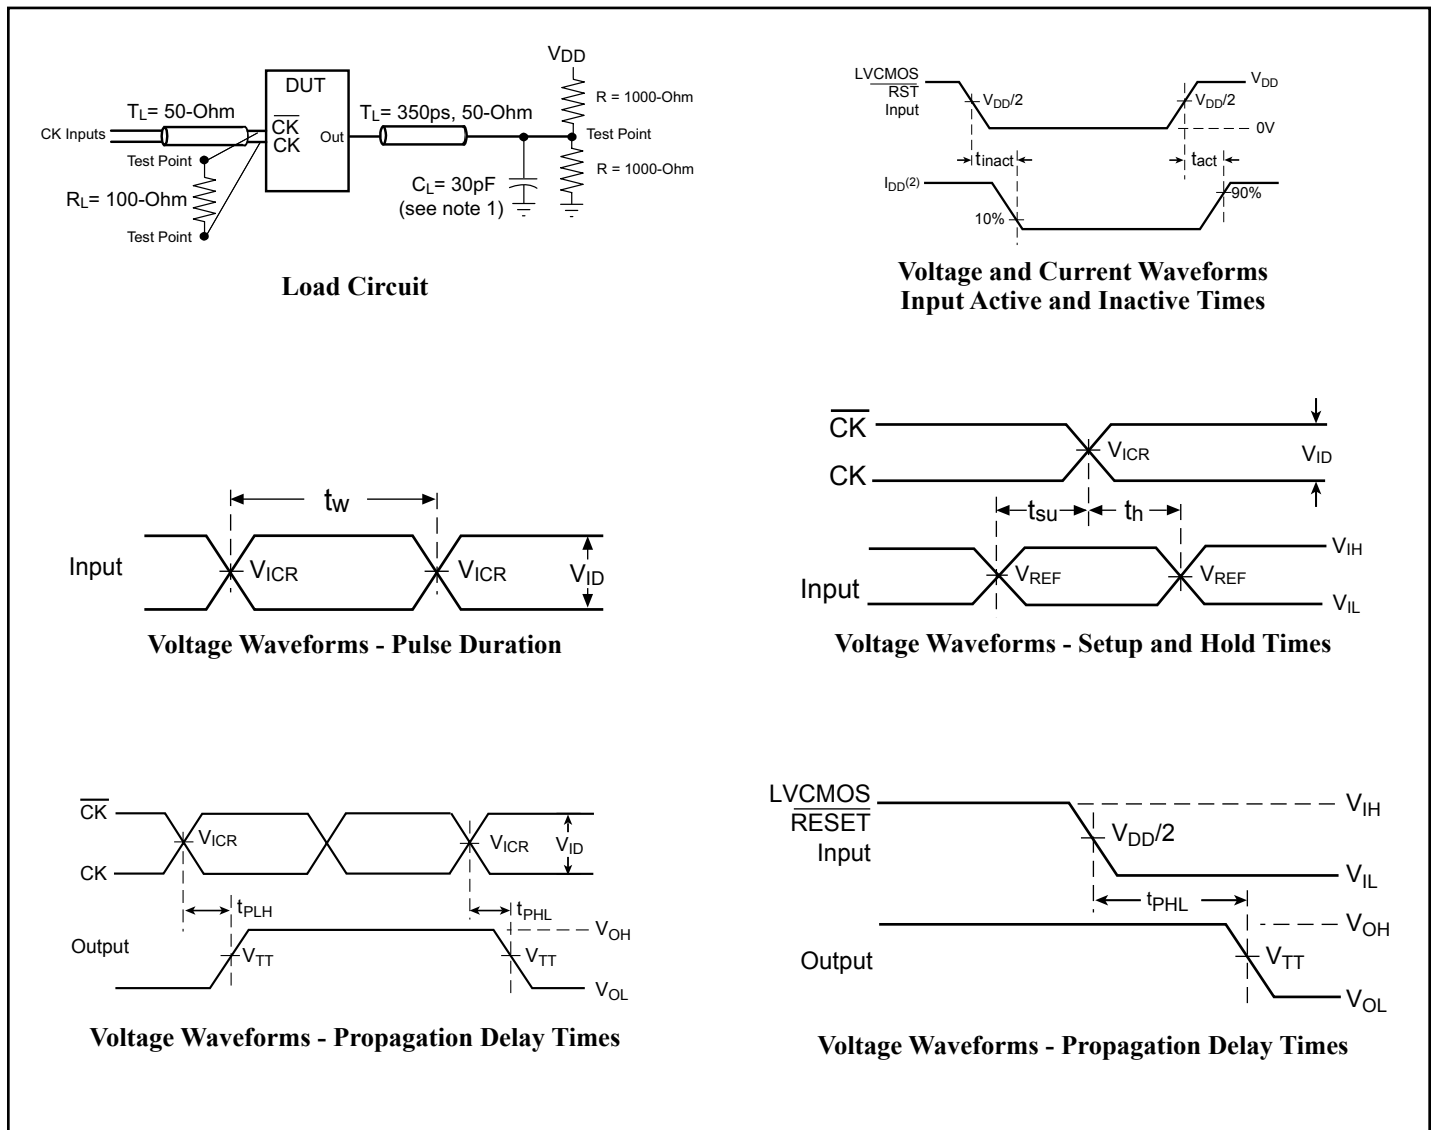

Figure 1. Parameter Measurement Information ( $V_{DD} = 1.8V \pm 0.1V$ )
**Timing Requirements** Over Recommended Operating Free Air Temperature range (See Figure 1)
**Switching Characteristics** Over Recommended Operating Free Air Temperature range (See Figure 1)